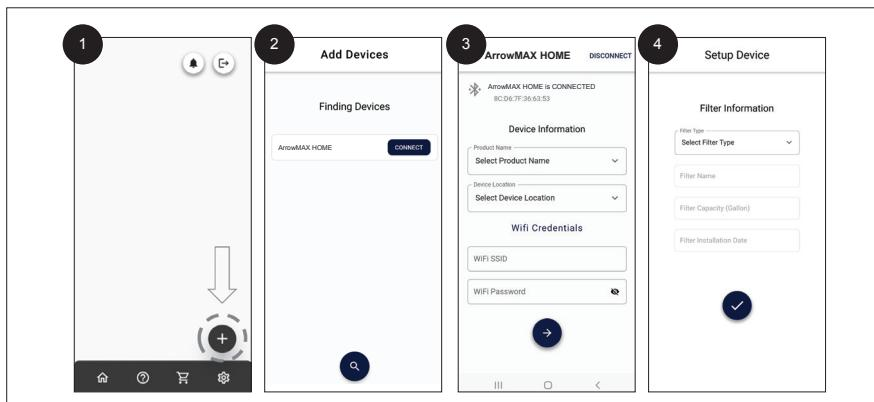

Figure 12: Set up the App
- The device then should be added to the account through the following steps as illustrated in **FIGURE 12**.